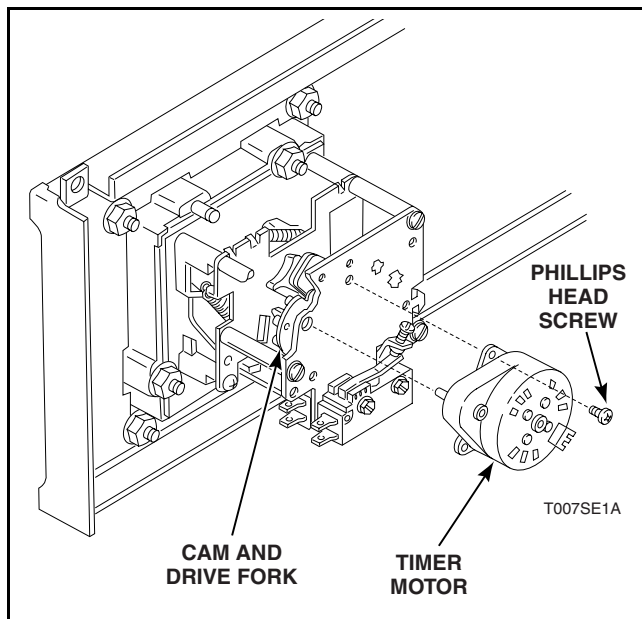

Figure 8
- Remove two screws holding motor to mounting bracket. Refer to *Figure 8*.